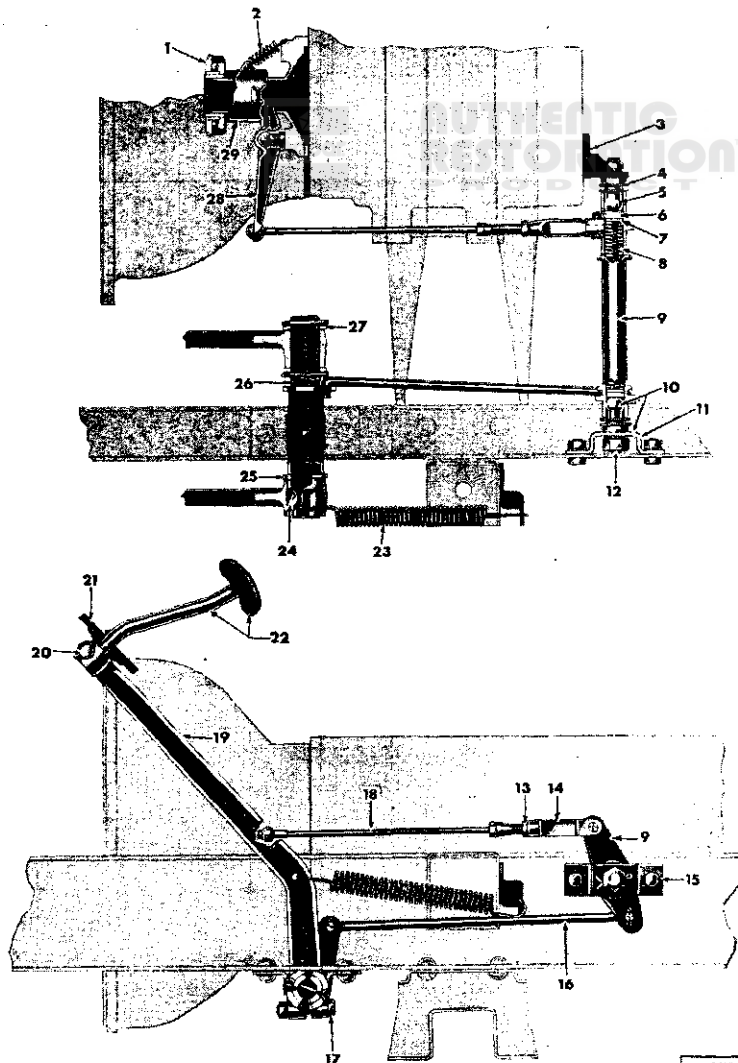

FIG. I-1—CLUTCH LINKAGE AND ADJUSTMENT, CROSS SHAFT TUBE AND LEVER TYPE
Two types of clutch linkage have been used on Jeep vehicles, a cross shaft tube and lever type shown in Fig. I-1, and a clutch control cable type shown in Fig. I-2. The clutch pedal adjustment procedures for both type linkages are as follows.
Refer to Fig. I-1.
Should difficulty in shifting the transmission be noted, check the length of the clutch release pedal rod, item (16) in Fig. I-1. Measure the distance between the centerlines of the cotter key holes.